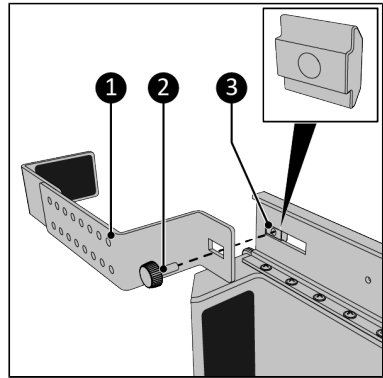

Figure 62.
7. Screw the bracket (Figure 62, pos. 3) to the main rail in the front position using the knob screw (Figure 62, pos. 2). Make sure you connect the knob screw to the slide nut (Figure 62, pos. 1).